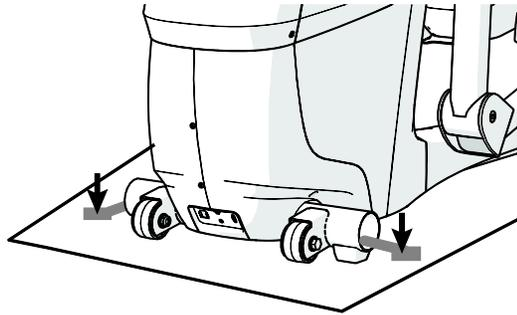

Figure 8
1. Remove and discard the two fasteners securing the front frame tube of the AMT to the shipping pallet (see Figure 8).